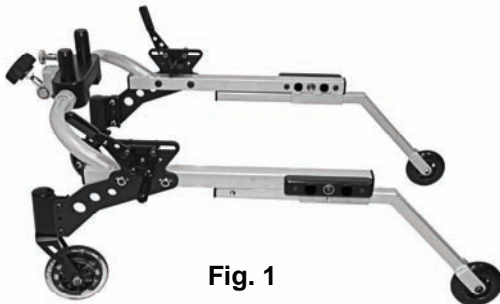

Fig. 1
- Place base frame on flat surface as shown in fig. 1.